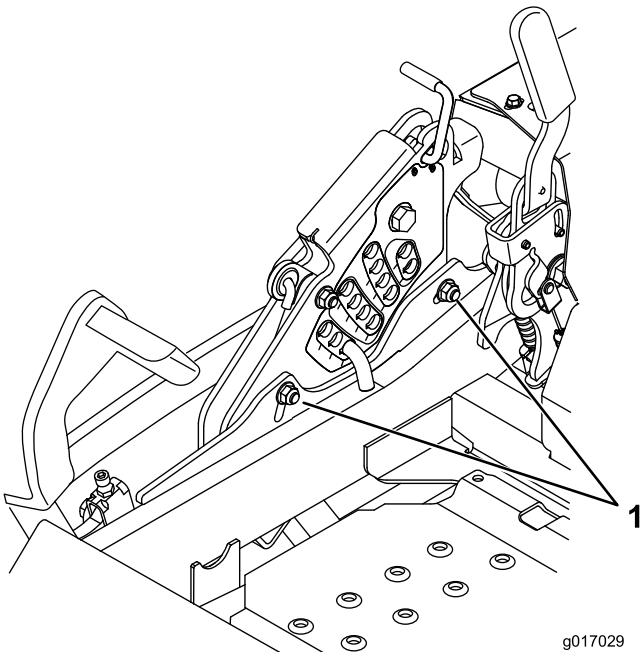

Figure 90
12. To adjust the single point system, loosen the 2 bolts at the bottom of the height-of-cut plate (Figure 90).
14. Tighten the 2 bolts at the bottom of the height-of-cut plate (Figure 90). T